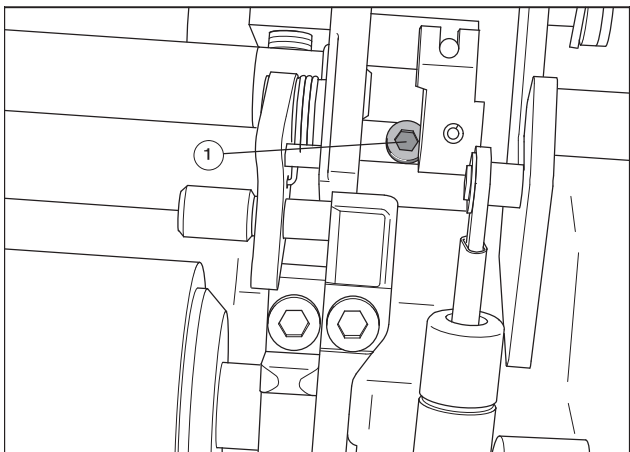

Fig. 37 Adjusting screw for dampening form roller
14. Correspondingly turn the adjusting screws (Fig. 37/1, here O.S.) using the operator tool.